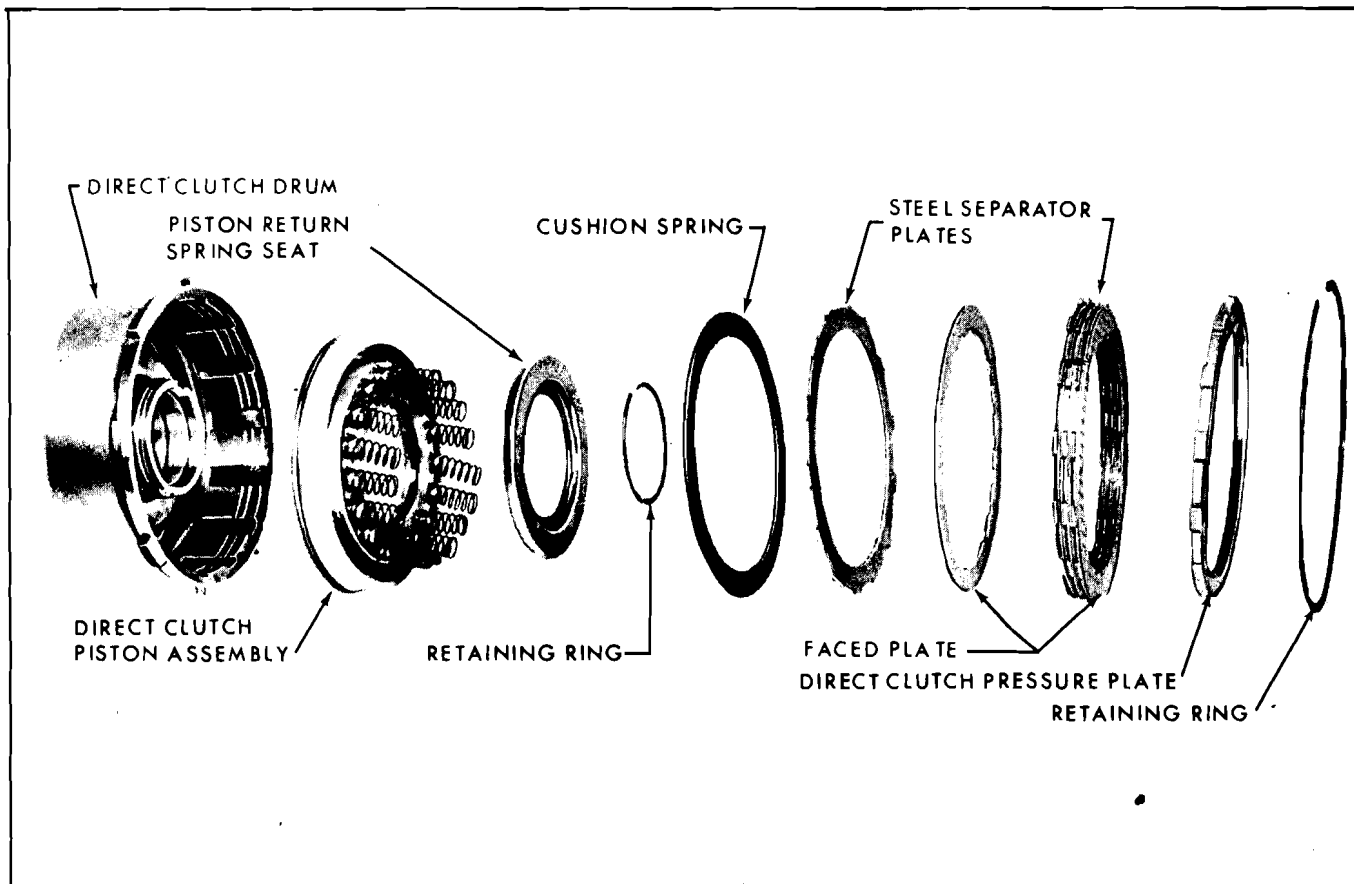

Fig. 7G-71 Exploded View of Direct Clutch Assembly
6. On V-8 models, install cushion spring, four (4) faced plates and four (4) steel separator plates, starting with cushion spring and alternating steel and faced plates; on 6 cylinder models, install cushion spring, three (3) faced and three (3) separator plates, starting with cushion spring and alternating steel and faced plates.
7. Install direct clutch pressure plate and retaining ring (Fig. 7G-66).
8. Install direct clutch drum-to-forward clutch drum needle roller bearing (Fig. 7G-65).
10. Install intermediate overrun roller clutch assembly, with paint daub up (Fig. 7G-64).
11. Install intermediate overrun clutch outer race, retainer and front retaining ring (Fig. 7G-63).